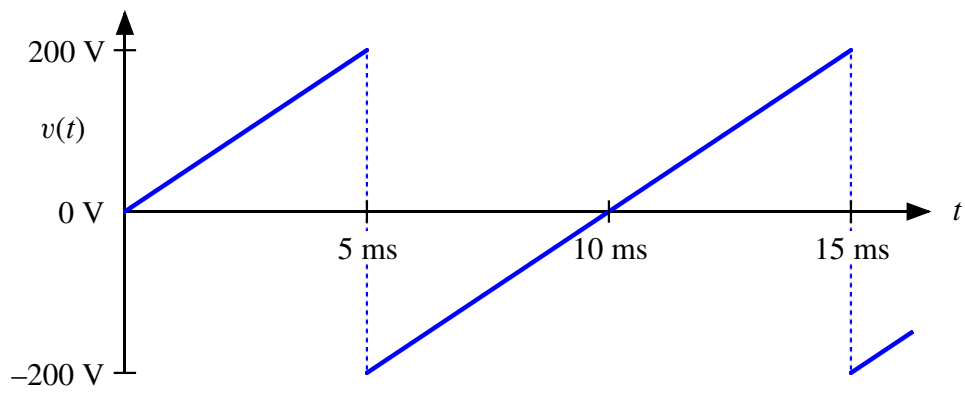

Figure 6. Sawtooth wave.
- 2.2 Find the average and RMS voltages and the form factor for the sawtooth function shown in figure 6, whose period is 10 ms and peak value is 200 V.